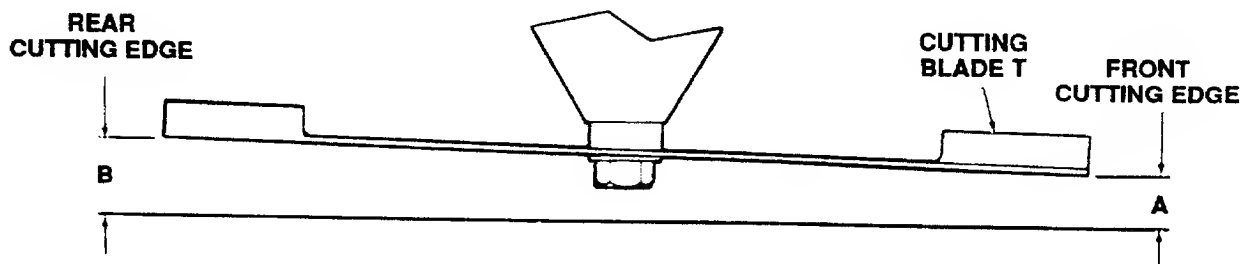

Figure 33
4. Refer to Figure 33. Measure and record the distance from the front cutting edge to the ground (measurement A), and from the rear cutting edge to the ground (measurement B), for each of the outside blades. The front edge of each blade (measurement A) should be lower than its back edge (measurement B) by 1/16 to 1/8 inch.